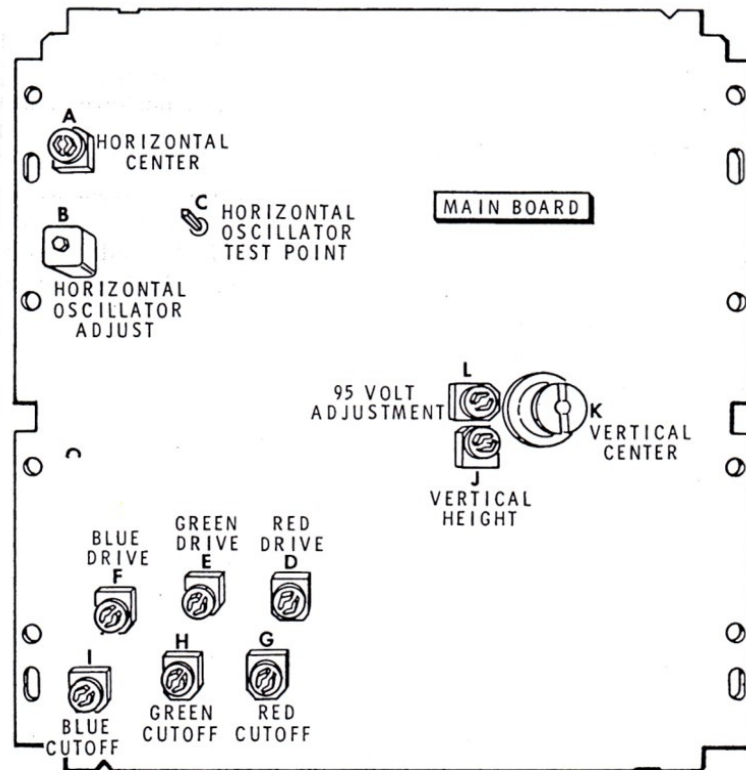
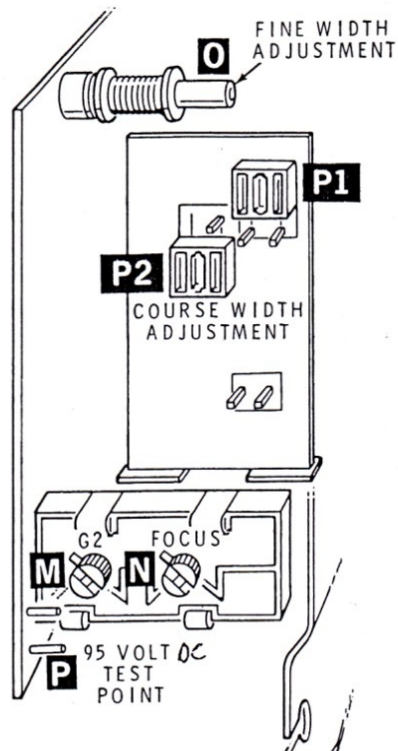

Figure 1.
Figure 2.
The video adjustments for the ZVM-13x series monitors are located inside the cabinet on the main board, on the high voltage board, and on the neck of the CRT. The adjustments are listed below with reference letters to help you locate them in Figures 1 and 2.
**95-Volt DC Adjustment -- R3409 (L):** The 95-volt B+ adjustment is located on the main board. The test point for this voltage is located at the extreme rear bottom corner of the high voltage / sweep assembly module. Refer to Figure 2 for the test point (P) and Figure 1 for the adjustment control location (L).
- Adjust the control (L) to set the voltage at +95 volts DC, within 5%.
**Width Control -- LX3261 (O):** The fine adjustment Width control, LX3261, is located in the horizontal sweep section; see Figure 2. To adjust this Width control requires a special six-sided plastic alignment tool, available at most electronics parts dealers. Use either the Keyboard Test or the BASIC program and adjust the active video display for about 1/2" margin on each side.
**Width Controls -- (P1 and P2):** Width controls P1 and P2 are coarse adjustment jumpers. For Heath/Zenith computers, these jumpers should be set as shown in Figure 2. P1 is in the upper vertical position and P2 is in the lower vertical position. Other computers may require these jumpers to be arranged in a different order. With both P1 and P2 in the lower vertical position, the display width is much wider and rolls off the screen when you are using a Z-100 computer.
**RGB Cut-off Adjustments:** The RGB drive and cut-off controls are located on the main board and colored appropriately as drive controls Red R2506 (D), Green R2517 (E), and Blue R2528 (F) and cut-off controls Red R2505 (G), Green R2516 (H), and Blue R2527 (I); see Figure 1. Preset the following controls:
**RGB Drive Adjustments:** To adjust the RGB drives, first create a white screen by booting up ZBASIC and entering the statement: **PAINTE (0,0),7** This BASIC statement will create a white screen. Observe the screen for red, green, or blue tints. If they are present, adjust out the color by using the appropriate Drive Adjust (see Figure 1). Each drive control is appropriately colored; Red R2506 (D), Green R2517 (E), and Blue R2528 (F).
**Vertical Center Adjustment -- R2125 (K):** The Vertical Center adjustment is located on the main board (See Figure 1). This control is used to shift the display up or down. To adjust this control, use either the Keyboard Test or the BASIC program to fill the screen. Adjust the Vertical Center control until the active video display is equal on the top and bottom.
**Vertical Height Adjustment -- R3418 (J):** The Vertical Height adjustment is located on the main board (See Figure 1). This control is used to adjust the vertical size of the display. To adjust the vertical height, use either the Keyboard Test or the BASIC program to fill the screen. Adjust the Vertical Height control so the display is about 1/2" from top and bottom. This leaves ample room to display line 25, when it is used.
**Horizontal Center Adjustment -- R3441 (A):** The Horizontal Center adjustment is located on the main board (See Figure 1). This control is used to shift the display left or right. To adjust this control, use either the Keyboard Test or the BASIC program to fill the screen. Adjust the Horizontal Center control until the active video display is equal on the left and right and still about 1/2" on each side. Readjust the Horizontal Width procedure given above, if necessary.
**Horizontal Oscillator Adjustment -- L3402 (B):**
The Horizontal Oscillator adjustment is located on the main board (See Figure 1). To adjust the oscillator, first defeat the APC (Automatic Phase Control) loop. You accomplish this by applying +12 VDC to pin 27 of the sync processor. This will disable the horizontal oscillator to free run. The oscillator (L3402) should then be adjusted to 15734 plus or minus 15 Hz. This can be accomplished by connecting a frequency counter to pin 3 or 5 of 221-264, and adjusting L3402.
**G2 Adjustment (M):** The G2 Gain adjustment is located in the horizontal sweep section (See Figure 2). In a darkened room, adjust G2 by first turning it up clockwise until a raster is shown, then back it down until the raster just disappears.
**Focus Control (N):** The Focus control is located in the horizontal sweep section (See Figure 2). This control sets the focus of the display - allowing you to see individual pixels close up. To adjust the focus, use either the Keyboard Test or the BASIC program to fill the screen with a character. Adjust the focus control for best focus at a point halfway between center and any corner of the active display area.